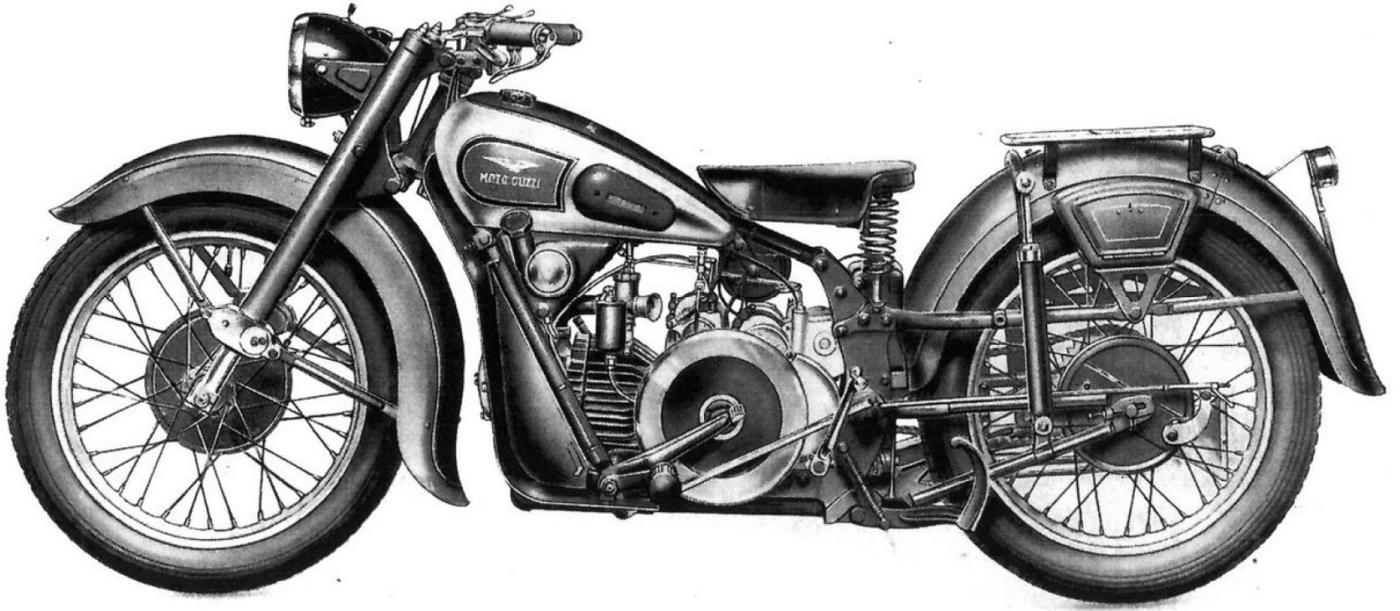

Fig. 1 - Motorcycle GTV – flywheel side
- Figure 1- G.T.V. Motorcycle (flywheel side).